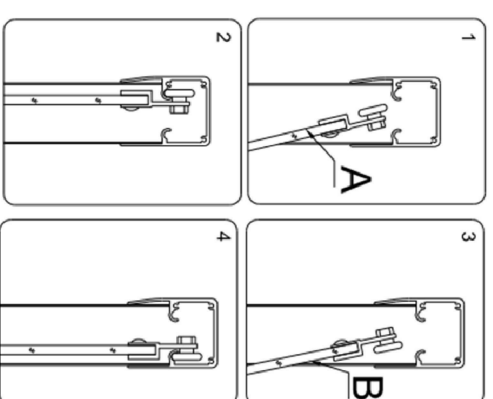

Fig. 9
One by one suspend both **Glass doors** onto the **Upper guide rail** as shown on (Fig.9). Tilt the **Glass door (A)** a little to make the glass slide into the channel of guide rail. Suspend the **Glass door (B)** to the guide rail the same way.
See Fig. 9 for details